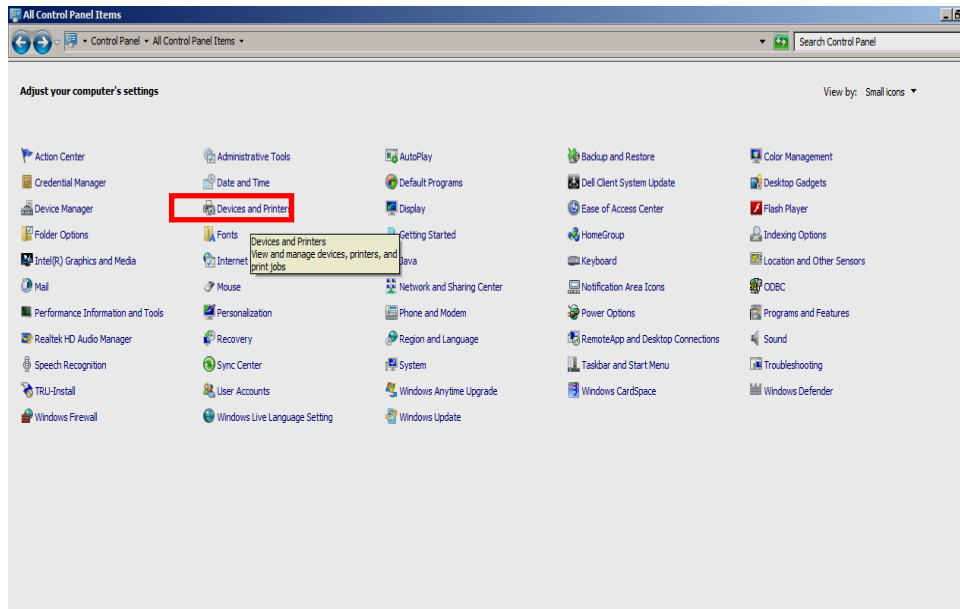

Figure 10.14 – Control Panel Select Devices and Printers icon.
- 8) Double click the Devices and Printers Icon as shown in Figure 10.14 below.